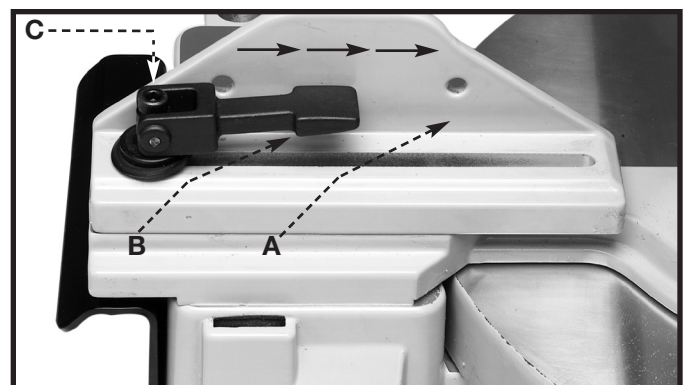

Fig. 22
The sliding fence (A) Fig. 22 provides support of large workpieces. Set it as close as possible to the saw blade. When miter cutting at 0° bevel (blade 90° to the table), the fence (A) should be all the way toward the blade (Fig. 22).
When bevel cutting, move the fence (A) Fig. 23 away from the blade to allow for clearance for the saw blade and guard. To accomplish this, lift up on the fence tension knob (B) Fig. 22, slide the fence to the desired location, and push down on the fence tension knob to lock the fence.
NOTE: Adjust the pressure on the tension knob by turning the hex-head cap screw (C) Fig. 22 on top of the tension knob counter-clockwise to decrease clamping tension, and clockwise to increase clamping tension.